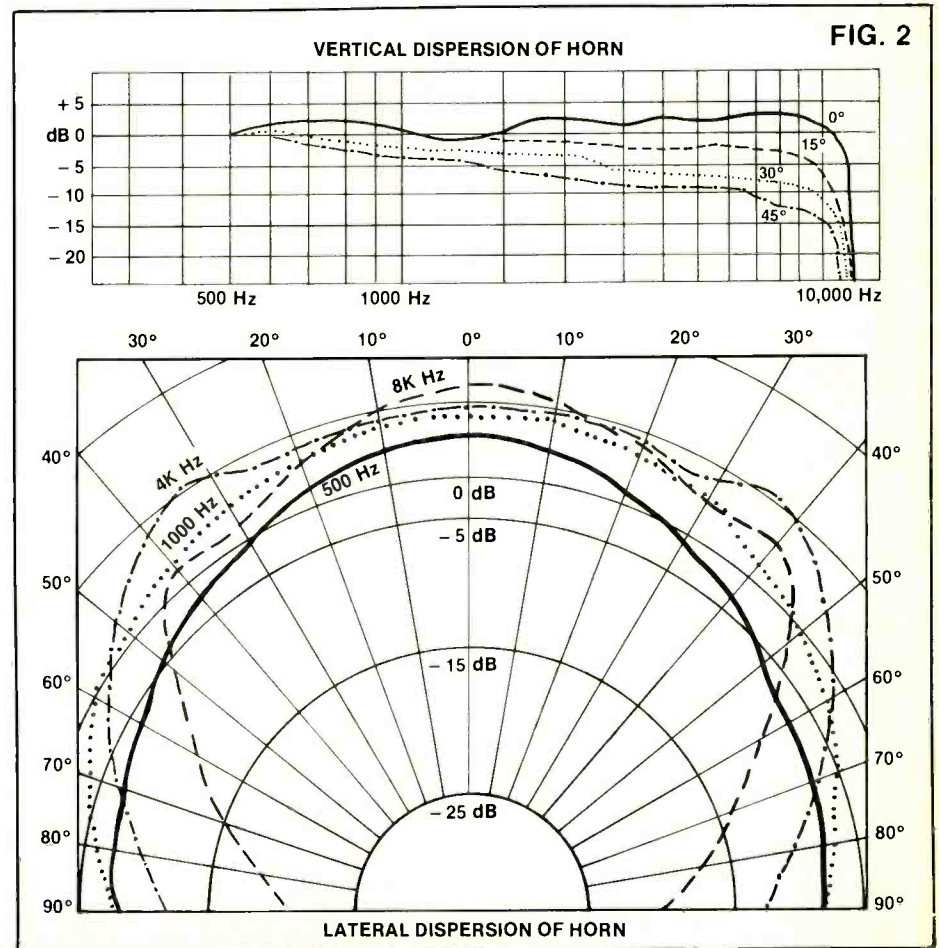

FIG. 2
(6) Generally, all cone speakers will have a dispersion pattern that is conical, and will be from about 90 degrees to 120 degrees wide. As the frequency of the sound goes up, this pattern usually narrows, which shows that speakers are more directional at high frequencies. This is called "beaming," and the result is that as the listener moves off the center axis of the speaker the sound appears to have more bass and less treble.
(7) Horns come in all shapes, sizes and lengths, and, consequently, a great variety of coverage patterns are available. Average coverage patterns used are (a) 40 degrees vertical by 90 degrees horizontal (see figure 2), (b) 40